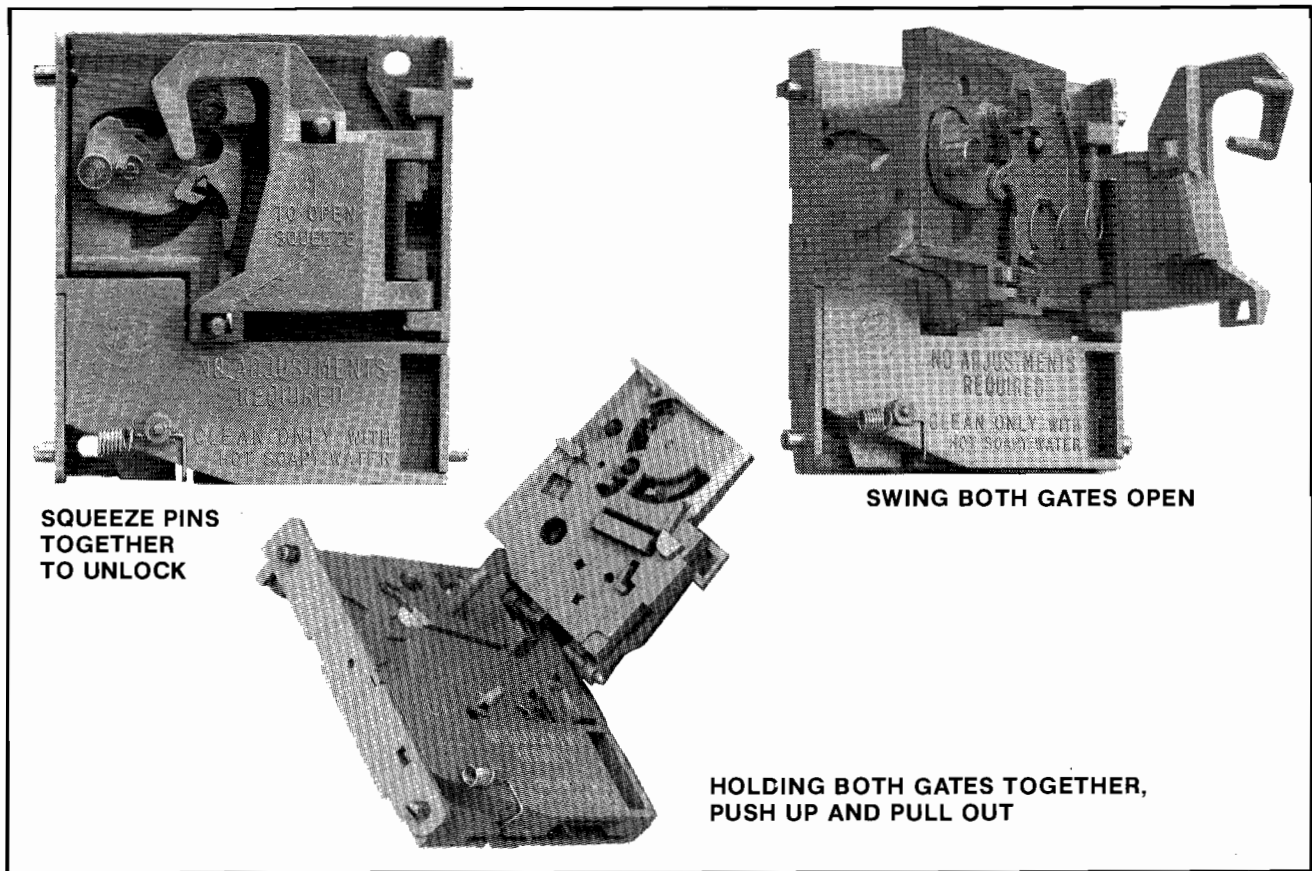

Figure 4-4 Opening the Plastic Coin Acceptor
4. Squeeze the two pins indicated in Figure 4-4 together to open the mechanism and break it down into its three basic parts.